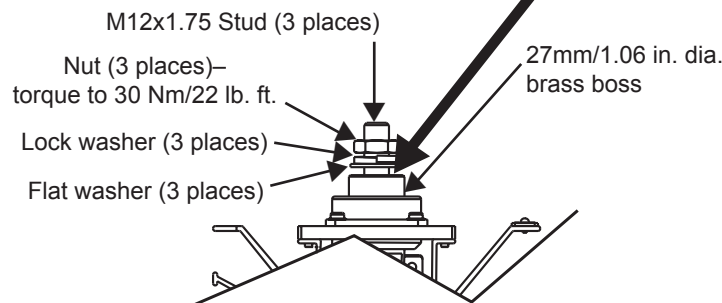

Figure 3 - Stacking Order
4. Remove double nuts. Install hardware in stacking order shown in Figure 3.